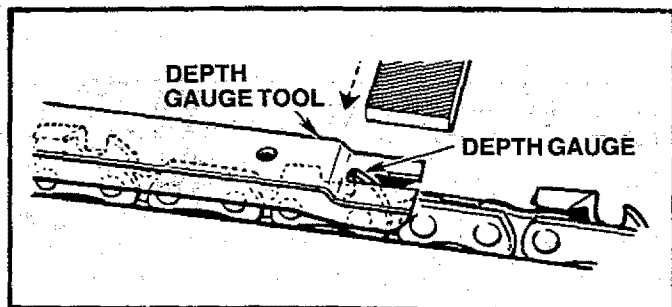

Figure 40
- a.) Place Depth Gauge Tool (Catalog #71-36557) over each cutter depth gauge. Figure 40.